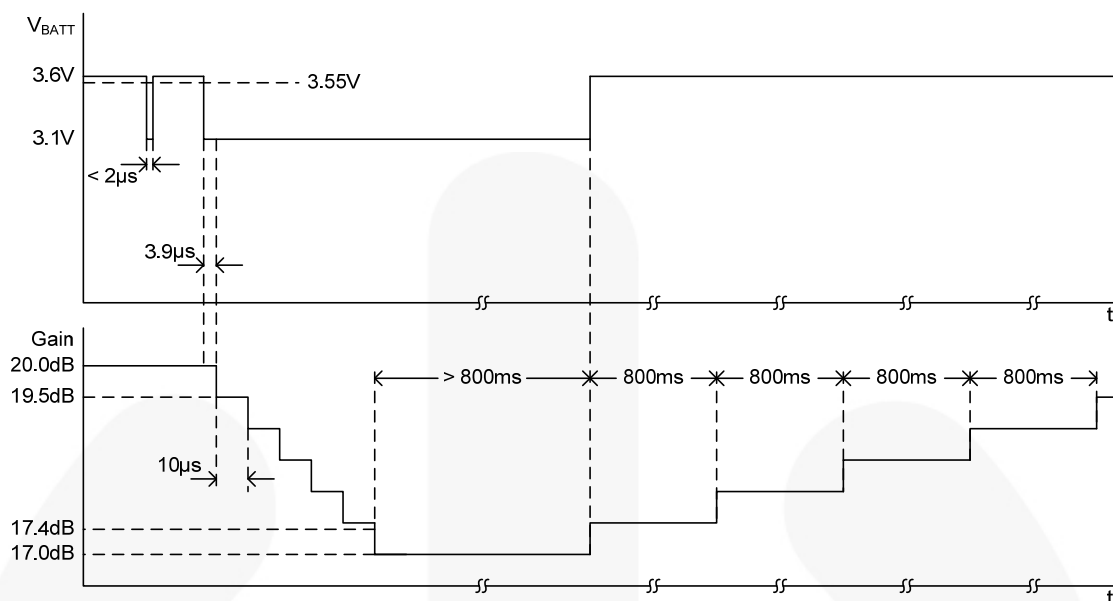
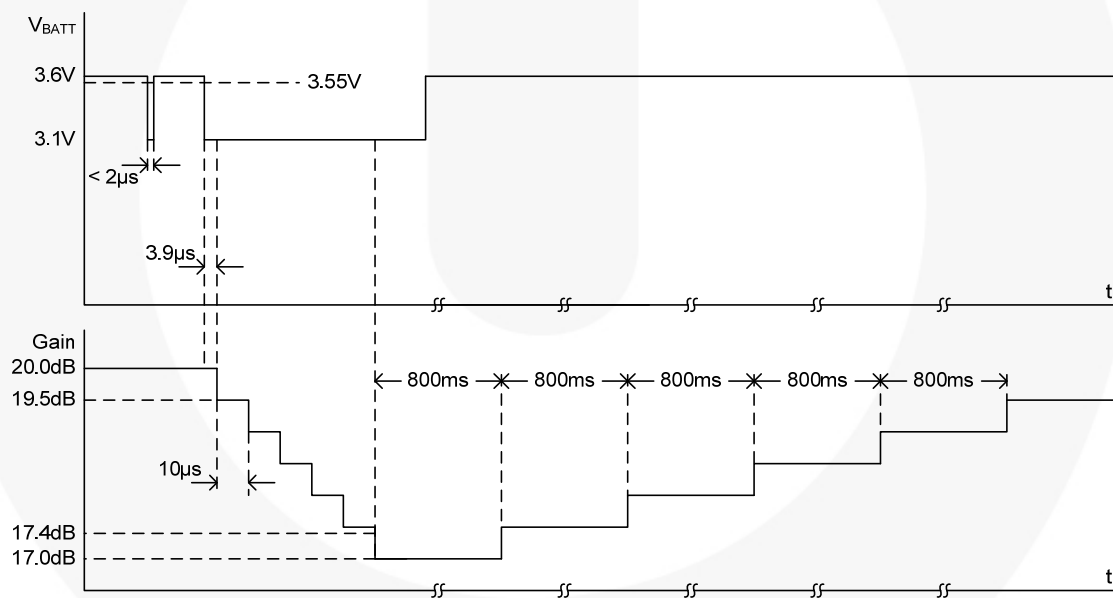

Figure 14. AGC Changes vs. Time, Example 1
Figure 15. AGC Changes vs. Time, Example 2
Figure 14 and Figure 15 show examples of AGC changes over time. In these examples, AGCT is grounded, so the AGC trip point is 3.55V.
- When VBATT rises above the trip point, gain increases by 0.5dB. If more than 800ms has passed since the last gain change, gain rises immediately, as shown in Figure 14. Otherwise, gain does not rise until after 800ms has passed, as shown in Figure 15.